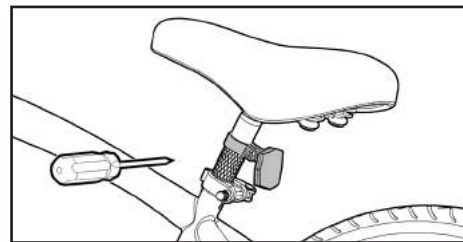

Figure 8
To install the seat post reflector, first remove the seatpost and saddle from the bike. Use (A) Standard Phillips Head Screwdriver to loosen the screw on the clamp of the reflector until you can slide the reflector over the seat post. Once the reflector is on the seat post, reinsert the seat post back into the seat tube. Position the reflector so that it is perpendicular to the ground, and move it up on the seat post until it can be seen above the tire when viewing the bike from the rear (see Figure 8).